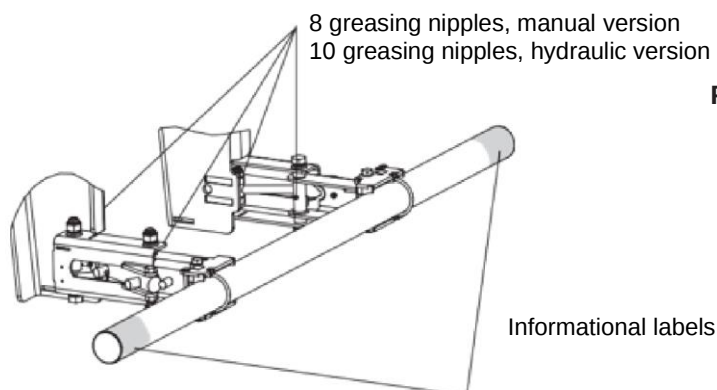

Fig. 16
- Affix the informational labels on the product (see fig. 16).